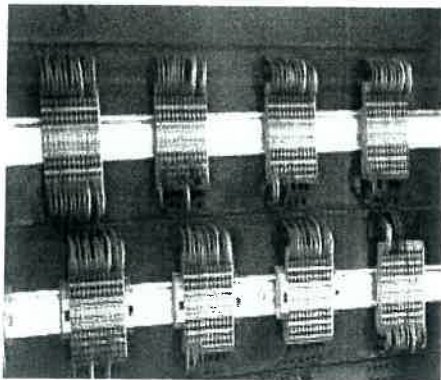

Figure-3
4. After every cable terminated in a row, there should be a minimum gap equivalent to 1-2 ARA terminal or minimum 06 Screwless Disconnect Terminals. (Annexure-A, Figure-3).
5. Inside the Location Box, minimum clearance of bottom most terminal row shall be around 150mm from base of location box. The Centre to Centre Distance between two rows of Screwless Disconnect Terminal / ARA Terminal shall be around 18cm to 20cm or suitable gap between rows to be kept for cable entry holes and description writings. (Annexure-A, Figure-3).